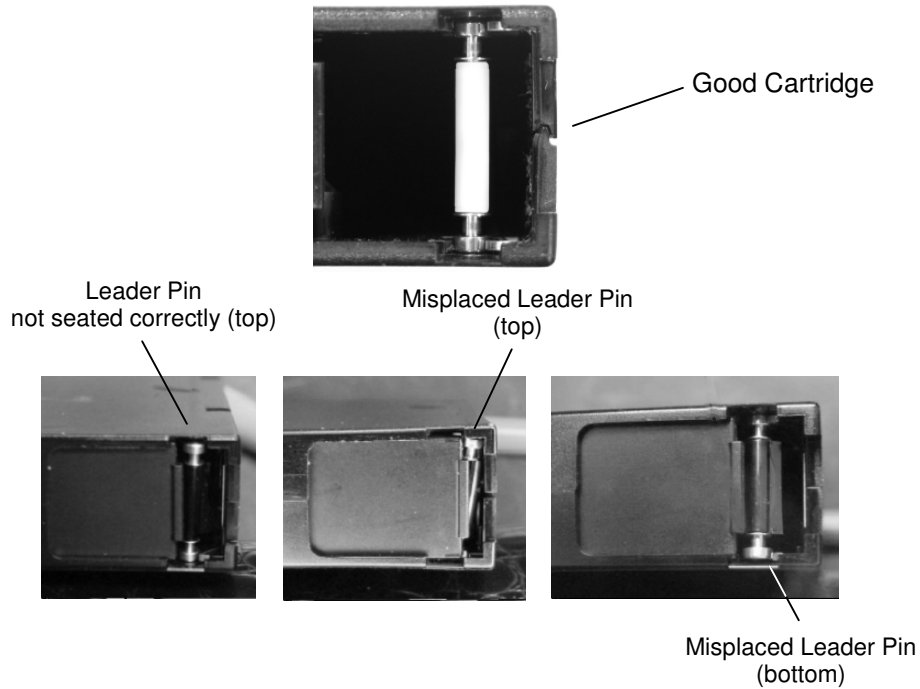

Figure 2 The Leader Pin
3. Locate the cartridge door and slide it open so the leader pin can be inspected (Figure 2). The tape or media should be attached to the pin itself and the pin should be located in the recesses at the top and bottom on the inside of the door. **Do not use the cartridge if the tape is not attached to the pin, the pin is loose, missing, not seated correctly or cocked at an angle.**